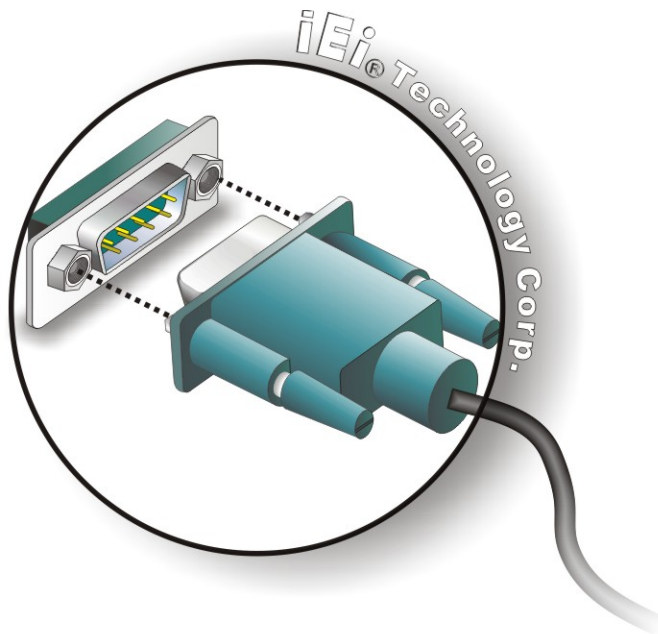

Figure 3-30: Serial Device Connector
Step 2: Insert the serial connector. Insert the DB-9 connector of a serial device into the DB-9 connector on the bottom panel. See **Figure 3-30**.
Step 3: Insert the serial connector. Insert the DB-9 connector of a serial device into the DB-9 connector on the cable. See Figure 3-30.